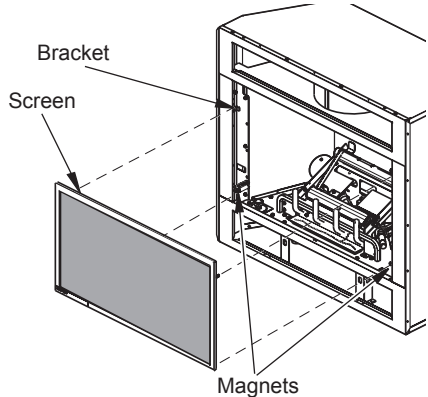

Figure 42 - Installing Fireplace Screen
4. Install fireplace screen by placing the screen brackets on top of the fireplace screen brackets as shown in Figure 42. Push the bottom of the screen inward against the magnetic catches to secure in place.